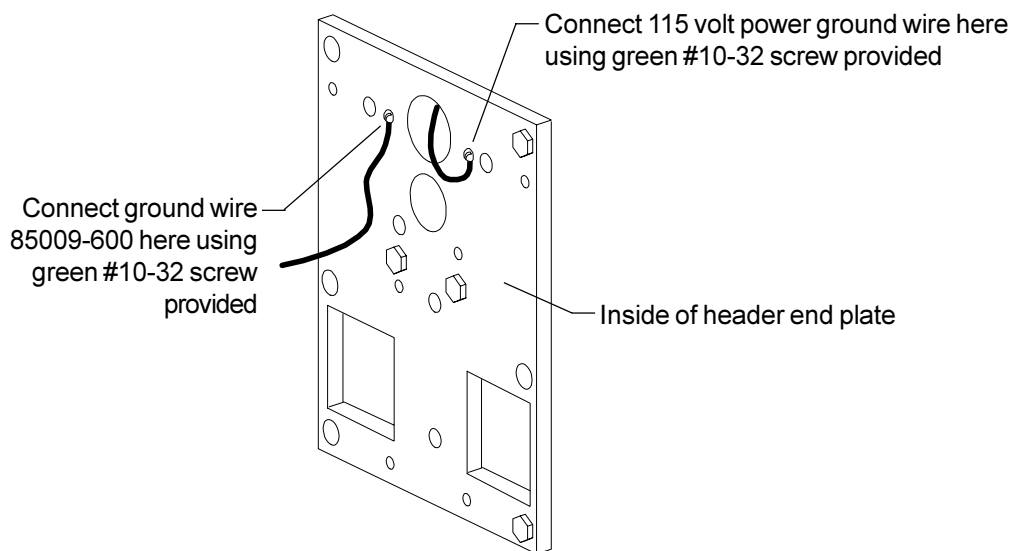

Figure 4-2
- 4.2. Connect the 115 volt power ground wire to the header end plate where shown in Figure 4-2.
- 4.3. Connect the control box ground wire 85009-600 to the header end plate where shown in Figure 4-2. Do not connect the other end of this wire at this time.